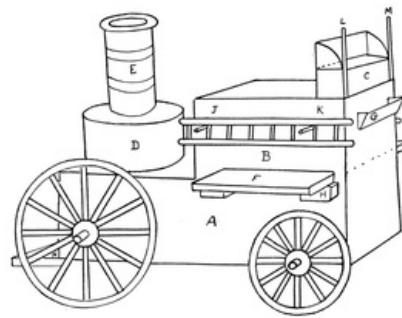

FIG. 216
**A Fire-engine** (Fig. 216). For this toy two cardboard boxes are required, one about 6" × 2" × 2", A in Fig. 216, and the other, B, 3" × 2" × 2". The cardboard case that contains Le Page's glue is a suitable size for B. Make holes through both sides of A, about 1 inch from one end, for the axle of the large wheels, and holes through B at K and J for the pieces of cane that support the ladders. Gum B to A and cover both with red paper. D is part of a round mantle-box, and the funnel, E, a roll of paper. Both are coloured yellow, F is a piece of stripwood, ½ inch by ¼ inch, cut the right length and glued to B and to two supports, H. A similar piece is fastened on the other side. These are for the firemen to stand on. They may be left their natural colour or coloured grey. The seat, C, is a piece of stripwood, ½ inch by ½ inch, with a paper back, and L M are match sticks glued to the sides. G, the foot-rest, is made of cardboard and fastened to box, B, by two wedge-shaped pieces of wood. The ladders are made of strips of cardboard, with half matches as rungs. N is a piece of cardboard gummed underneath A and projecting from it ½ inch for the fireman's stand. This stand, seat, foot-rest, ladders, etc., should be coloured red. The small wheel is about 2 inches in diameter. The diameter of the large wheel can be measured when the smaller wheels are in position.